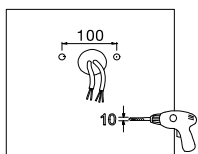

Figure 9
2. Yoke Mounting (YM)
- STEP 1: Drill holes on the wall as shown. (FIGURE 9)